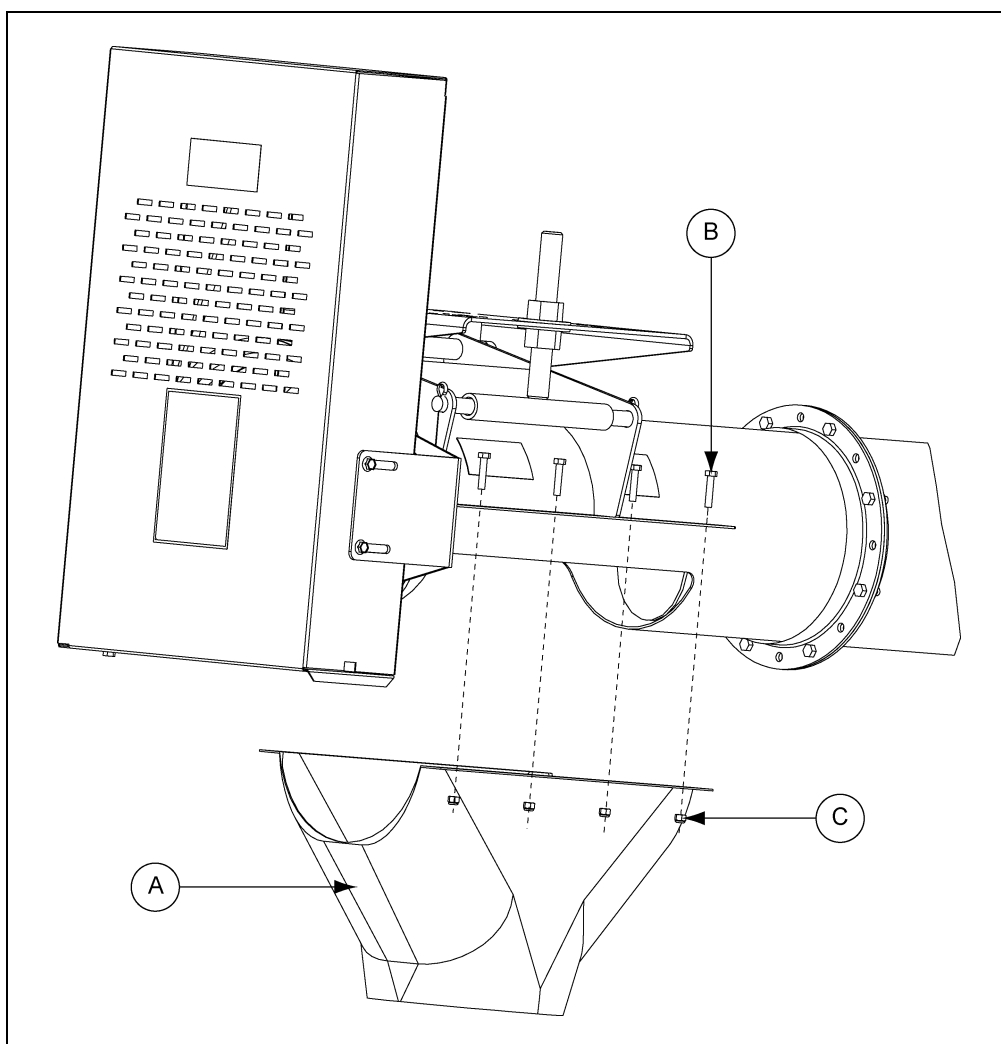

Figure 4Y
2. Align the spout (A) holes with those on the motor tube.
3. Fix with hardware as shown in Figure 4Y.